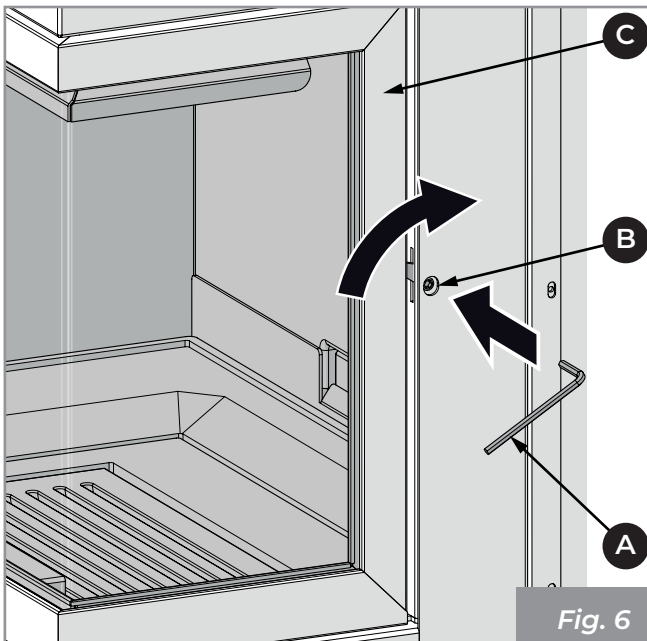
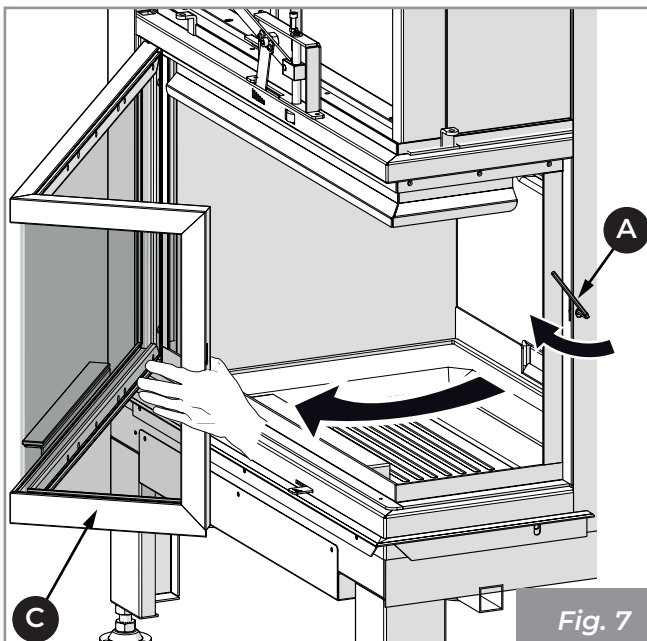

Fig. 6
Fig. 7
- 2) Insert the hex key (A) into the hole (B) to open the door (C) (Fig. 6 - Fig. 7).